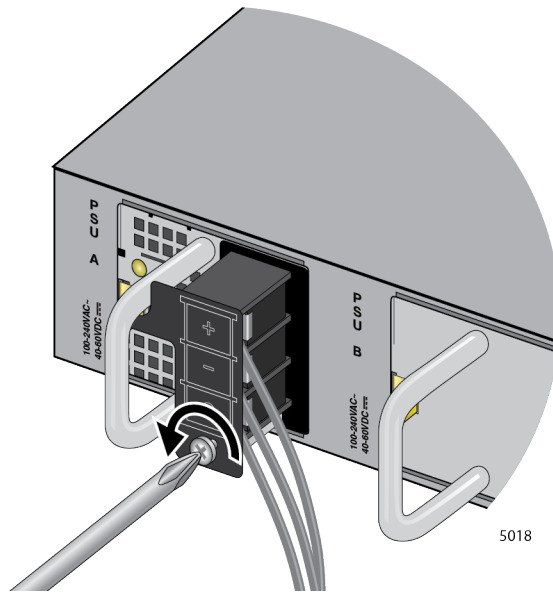

Figure 149. Loosening the Screw for the Panel
2. Loosen the screw for the connector panel with a Phillips-head screwdriver. Refer to Figure 149.